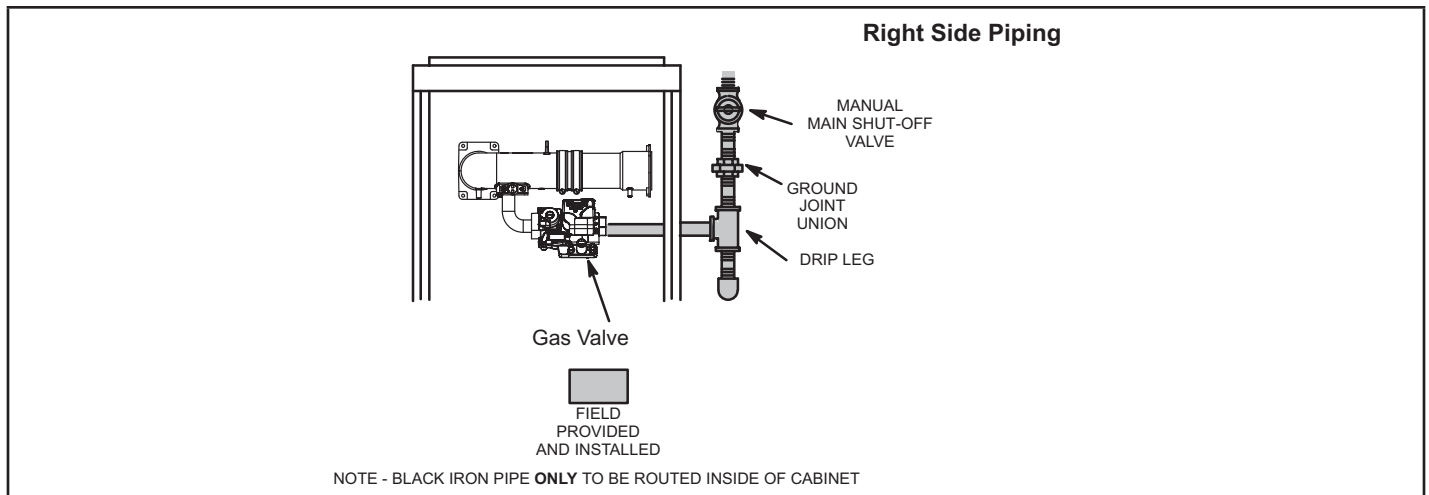
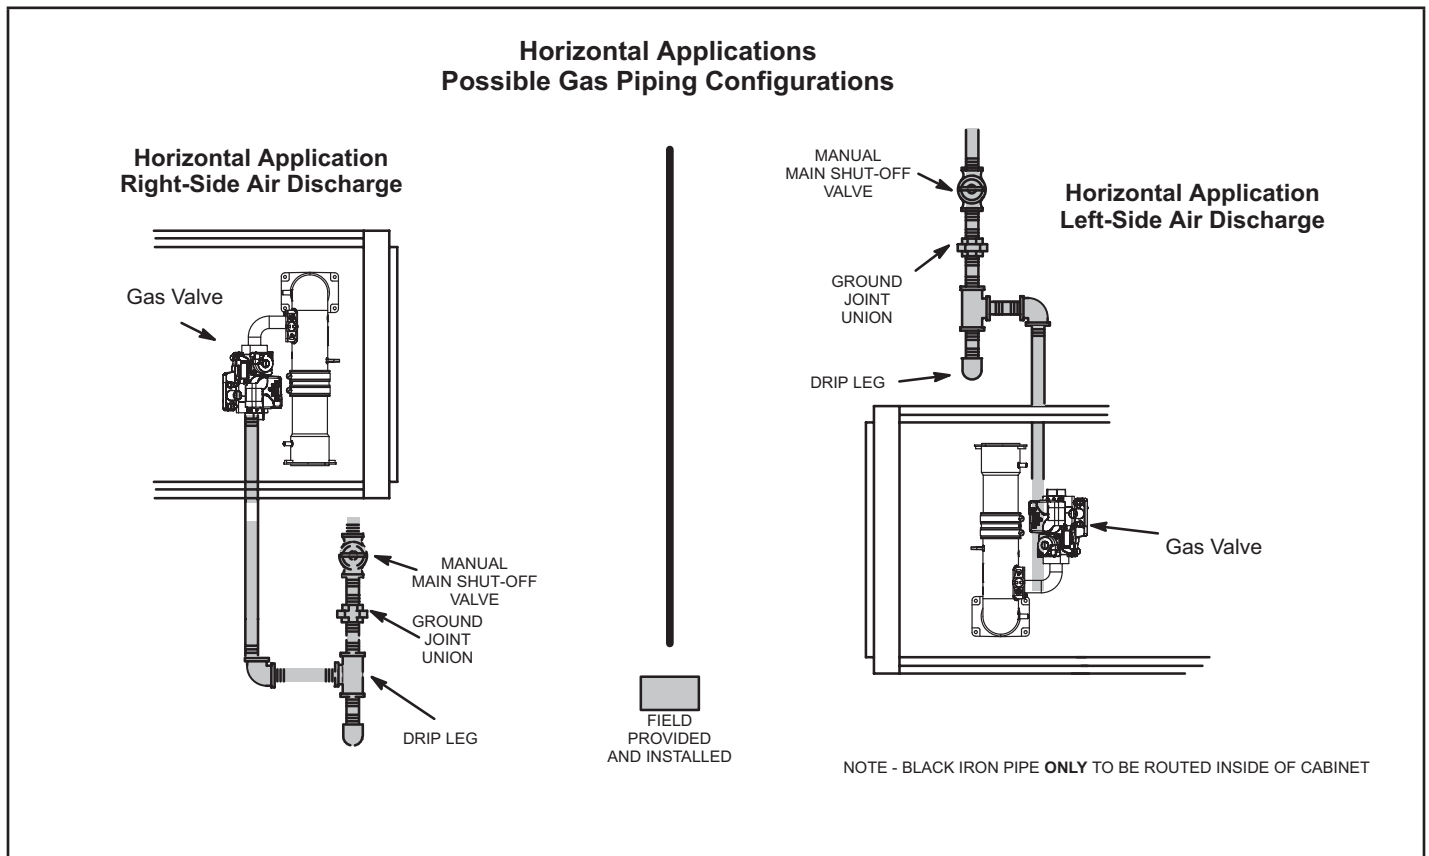

FIGURE 58
FIGURE 59
- 1 - Gas piping may be routed into the unit through the right-hand side only. Supply piping enters into the gas valve from the side of the valve as shown in FIGURE 58. Connect the gas supply piping into the gas valve. The maximum torque is 800 in lbs and minimum torque is 350 in lbs when attaching the gas piping to the gas valve.
- 3 - Gas piping must not run in or through air ducts, clothes chutes, chimneys or gas vents, dumb waiters or elevator shafts. Center gas line through piping hole. Gas line should not touch side of unit. See FIGURE 58 and FIGURE 59.